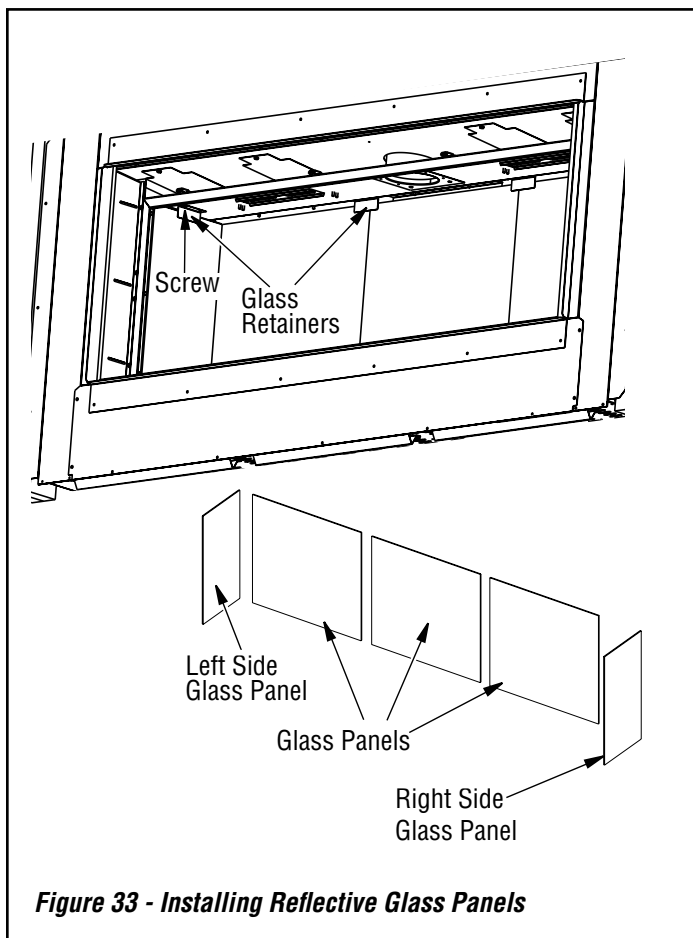

Figure 33 - Installing Reflective Glass Panels
5. Install the three rear glass panels using 2 retaining brackets and screws starting from the left to right side (Figure 33).